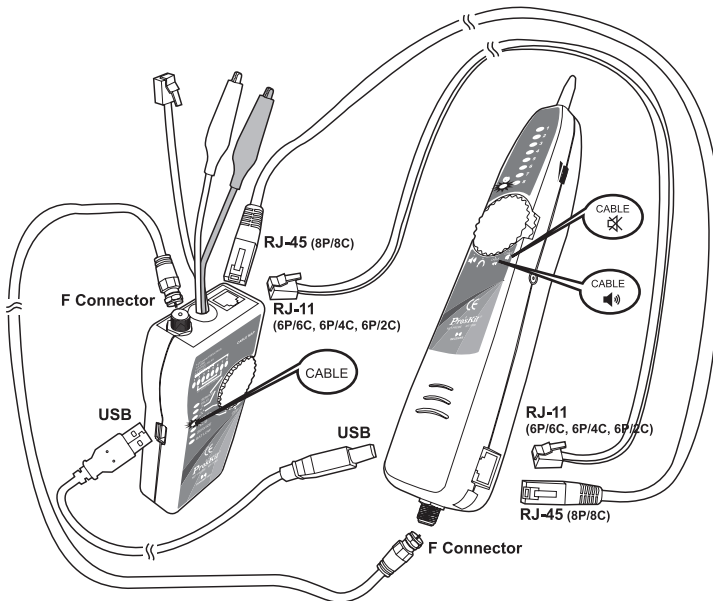
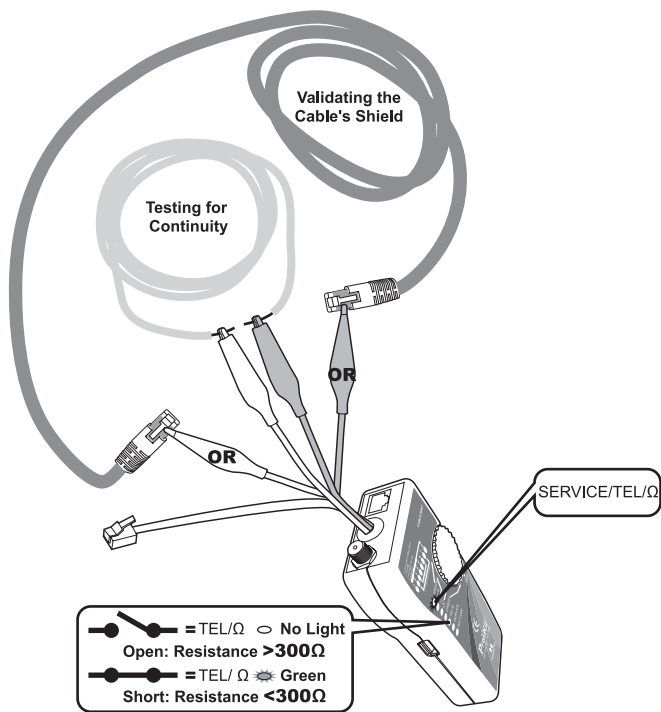

Figure 5 Validating Cable Maps
Figure 8 Continuity Test
- If you cannot locate the MT-7068 signal on 2-conductor cables, the cable may be shorted or opened. Use the Cable Map Testing (Fig. 5) to test for shorts or opens on cables with RJ11 and RJ45 connectors. Use the Continuity Test (Fig. 8) to check for shorts or opens on coax and non-terminated cables.
To validate cable shield during cable map tests, do the following as shown in Figure 8:
1. Connect the Toner to the circuit as shown in Figure 8. Connect the test leads to the telephone punch-down blocks, RJ11, and RJ45 jacks.